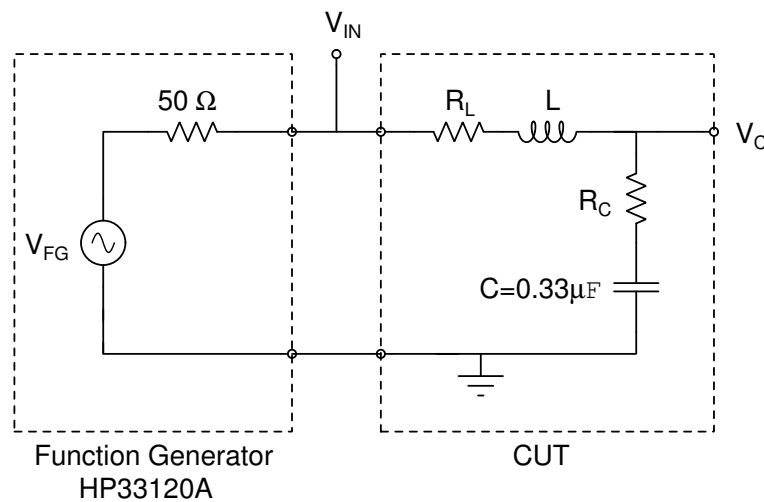

Figure 1: RLC circuit analyzed and measured in Lab #6.
3. Analyze the circuit in Figure 1 when $R_C = R_L = 0\ \Omega$ and $L = 1\text{ mH}$.
- (e) Set the function generator (FG) to produce a 1 Vp sine wave with a 2 Vdc offset and a frequency of 1 kHz. Verify the signal is correct using the oscilloscope. What DC offset voltage is displayed on the FG?
3. Build the RLC circuit shown in Figure 1.
2. Use NGspice to simulate the the RLC circuit shown in Figure 1 using the measured values of the capacitor and inductor including the equivalent series resistances R_C and R_L .